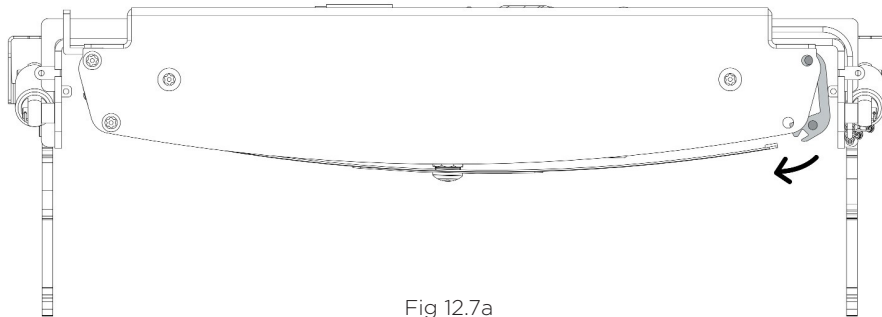

Fig 12.7a
- Looking from the top, the aluminum beam, as shown in Fig 12.7a, can now freely rotate in order to receive the front cover.